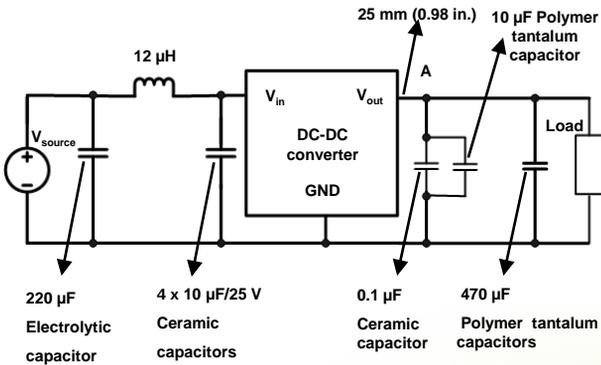

Figure 49: Test set-up diagram
1. Measure the output voltage ripple at A respectively shown in Figure 49.